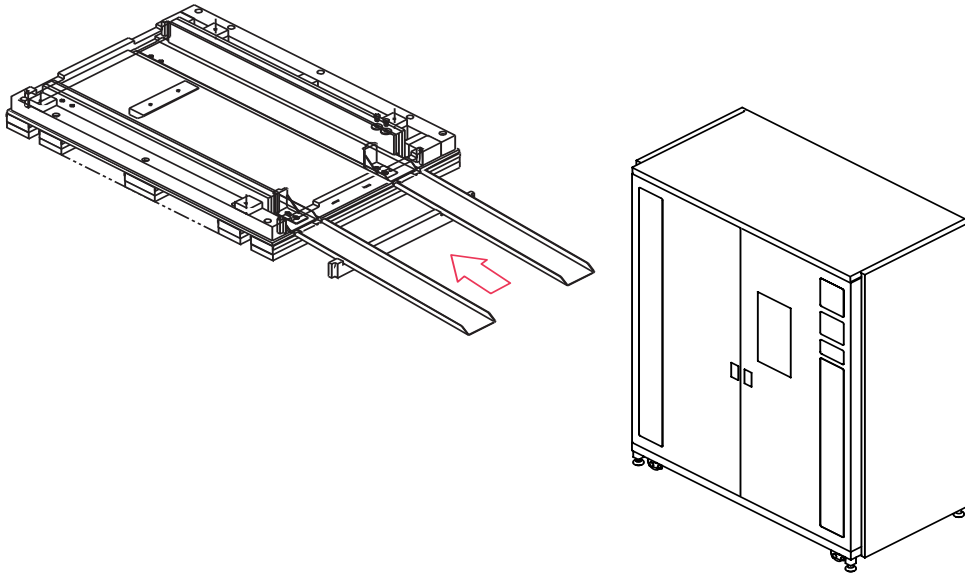

FIGURE B-3 Placing the Library onto the Pallet
1. **Prepare the shipping pallet for the library as shown in FIGURE B-3.**